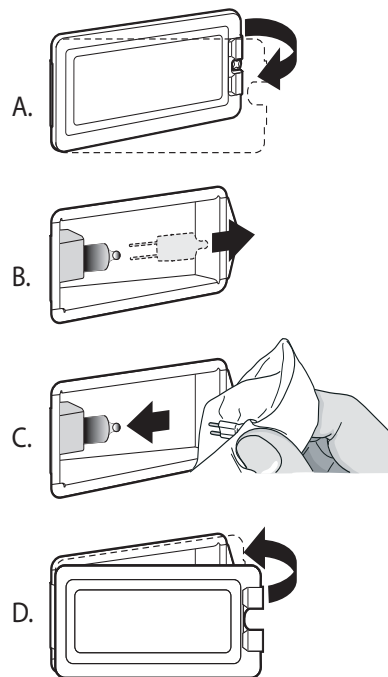

Figure 44: Bulb Replacement
3. Slide the tip of a flat blade screw driver between the fixing clip and the lamp housing (*Figure 44, A*).
6. Remove the bulb by grasping and sliding the bulb straight back until the two prongs have cleared the ceramic holder (*Figure 44, B*).
8. Press down to seat the bulb (*Figure 44, C*).
9. Slide the protective lens into the holder clip and push the other end until the fixing clip snaps back into the housing (*Figure 44, D*).